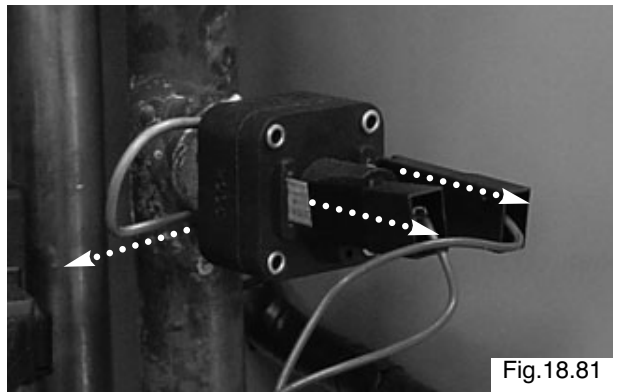

Fig.18.81
2. Pull off the connections. Then remove the clip from the pipe (see Fig. 18.81).